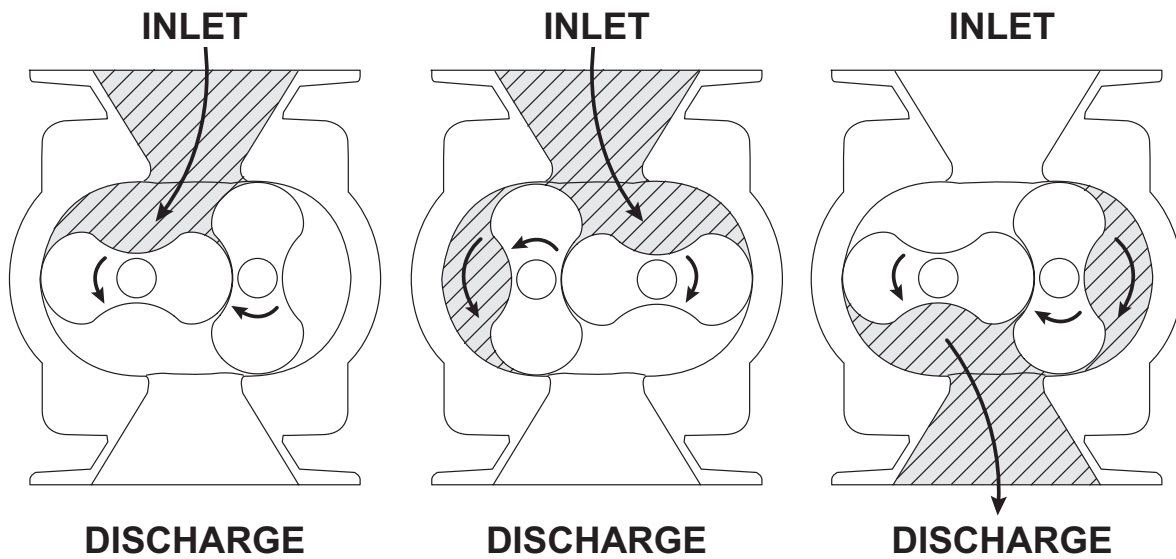

Figure 4-1 – General Operation Principle
**Figure 4-1 – General Operation Principle** illustrates the air movement within the machine. In addition, the machine can operate in either direction. **See Flow by Direction on page 7.**